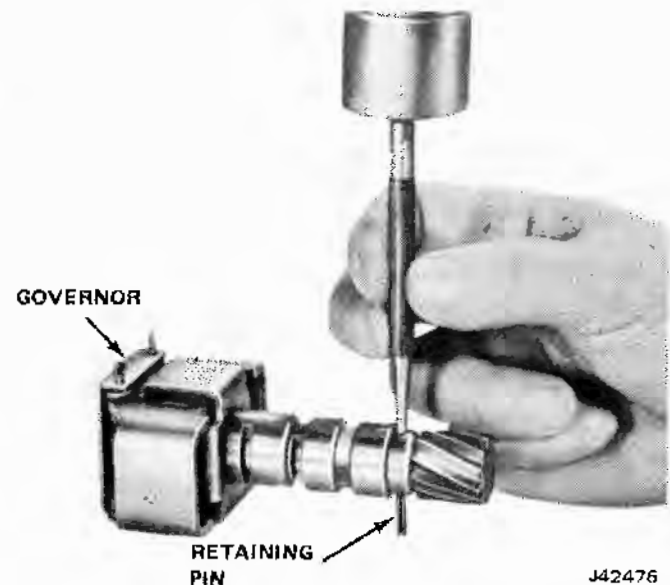

Fig. 7-46 Governor Retaining Pin
(1) Drive out split pin, which retains governor gear on governor sleeve, using small punch (fig. 7-46.)
(2) Support governor on 7/64-inch plates installed in exhaust slots of governor sleeve.
(3) Place in arbor press. Then with a long punch, press gear out of sleeve.
(4) Carefully clean governor sleeve of chips that remain from original gear installation.
(5) Support governor on 7/64-inch plates installed in exhaust slots of sleeve.
(6) Position new gear in sleeve.
(7) With a suitable socket, press gear into sleeve until nearly seated.